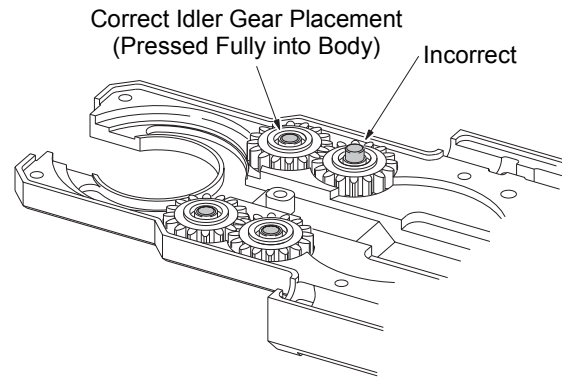

Figure 33 Correct Placement of Idler Gears in Micro Weld Head Housing
11. Replace the idler gears in the micro weld head housing. Verify the idler gear axles are pressed into the body. See Figure 33.